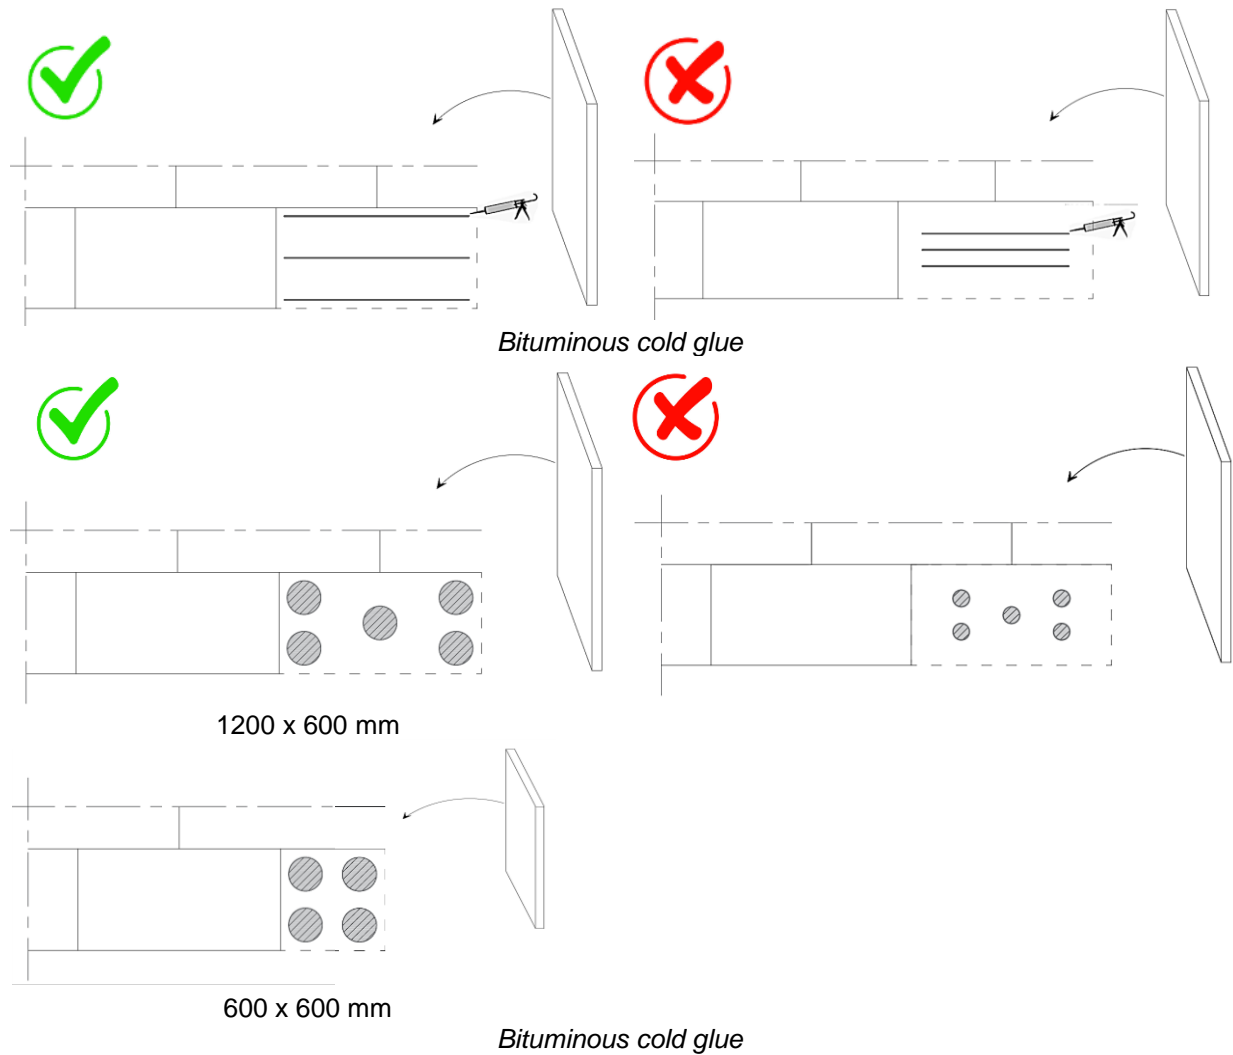

Figure 7: Adhered build-up - Gluing pattern – bituminous cold glue (principle drawings⁴)
- Bituminous cold glues can be applied by means of dabs or straight lines as shown in the drawing below (see Figure 7). In case of dabs, make sure that for a 1200 x 600 mm and 1200 x 300 mm board there are at least 5 sufficiently large dabs, spread over the insulation board (1 in each corner + 1 in the middle of the board). For the 600 x 600 and 600 x 300 mm boards, four dabs can be sufficient. Always respect the coverage prescribed by the manufacturer of the adhesive.